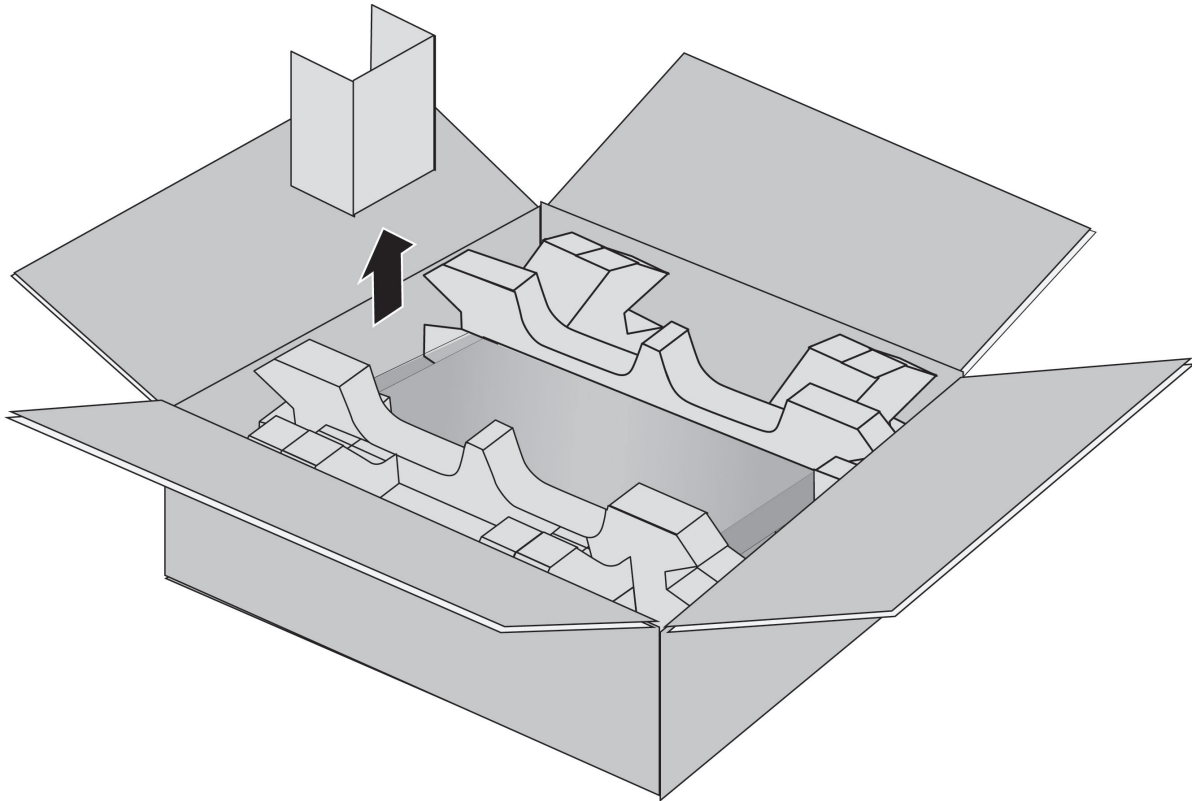

Figure 49. Removing the Shipping Partition
2. Remove the accessory partition. Refer to Figure 49 on page 110.